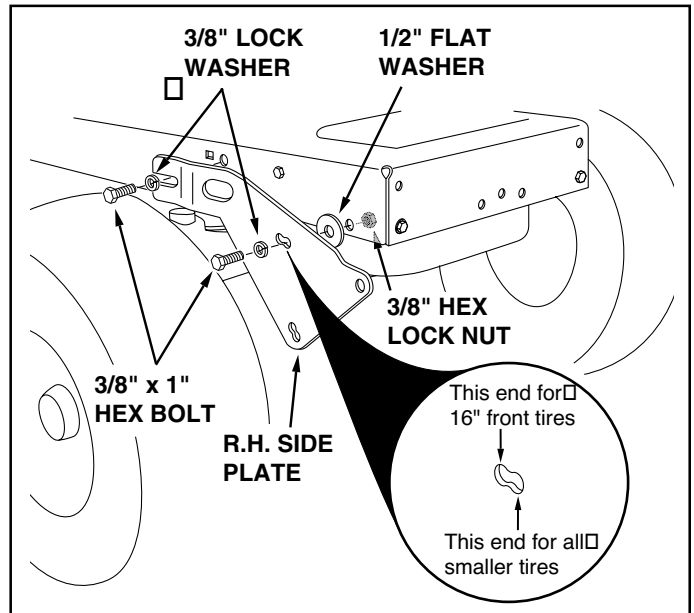

FIGURE 5 **RIGHT SIDE VIEW**
- Attach the R.H. Side Plate (marked "R") to the right side of the tractor frame as shown in figure 5. For the front hole use a 3/8" x 1" hex bolt, a 3/8" lock washer, and a 1/2" flat washer. Use the flat washer as a shim between the frame and the side plate. For the rear hole use a 3/8" x 1" hex bolt, and a 3/8" lock washer. Repeat for the L.H. side.